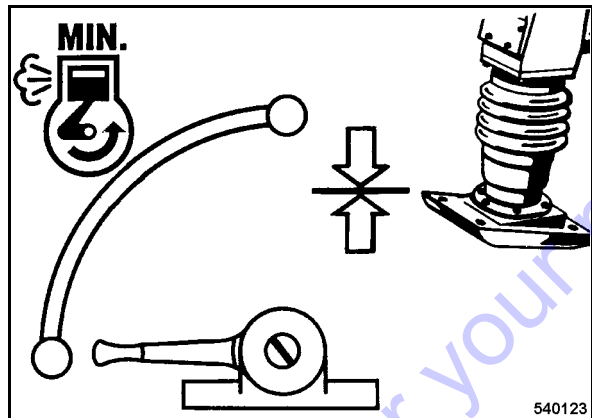

Fig. 21
- During short breaks you should always set the throttle lever to "MIN"-position (Fig. 21).